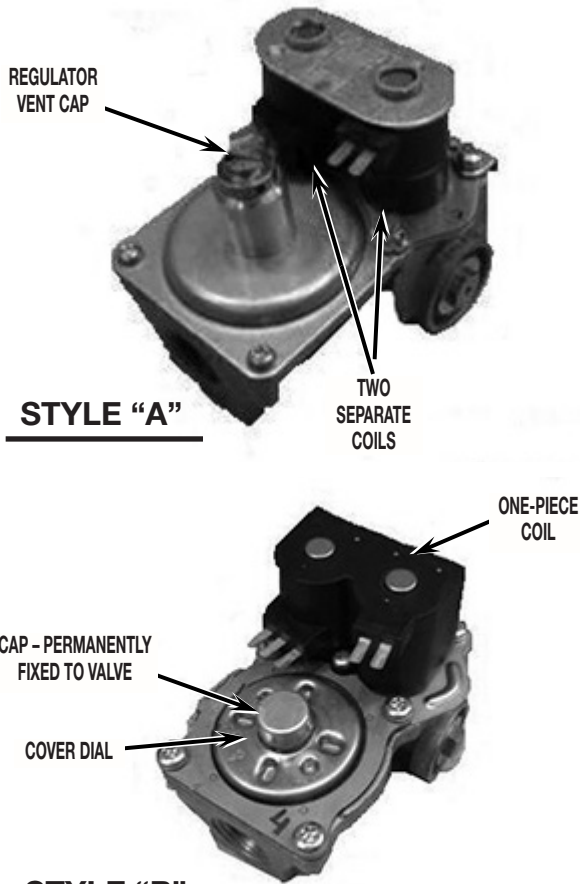

FIGURE 4
- Before proceeding, you must first determine which gas valve style is on the dryer. Refer to *Figure 4 – Style “A”* and “B”.